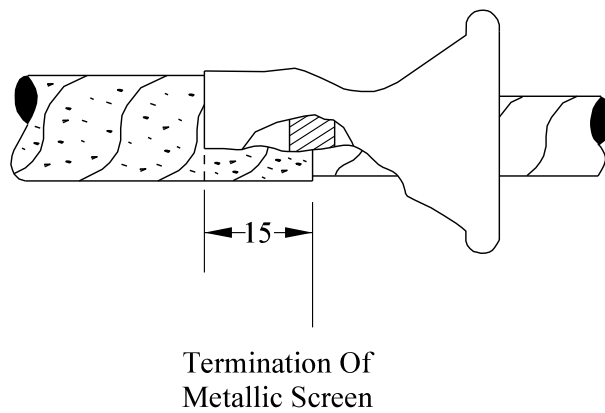

Fig 2
1.4 Remove both release papers and starting on the metallic screen just forward of the 5mm mark apply a half lapped layer over the termination point and onto the paper core insulation, ensuring a fine edge is achieved, with a long lay return to and onto the metallic screen finishing at the 5mm mark – Fig 2.